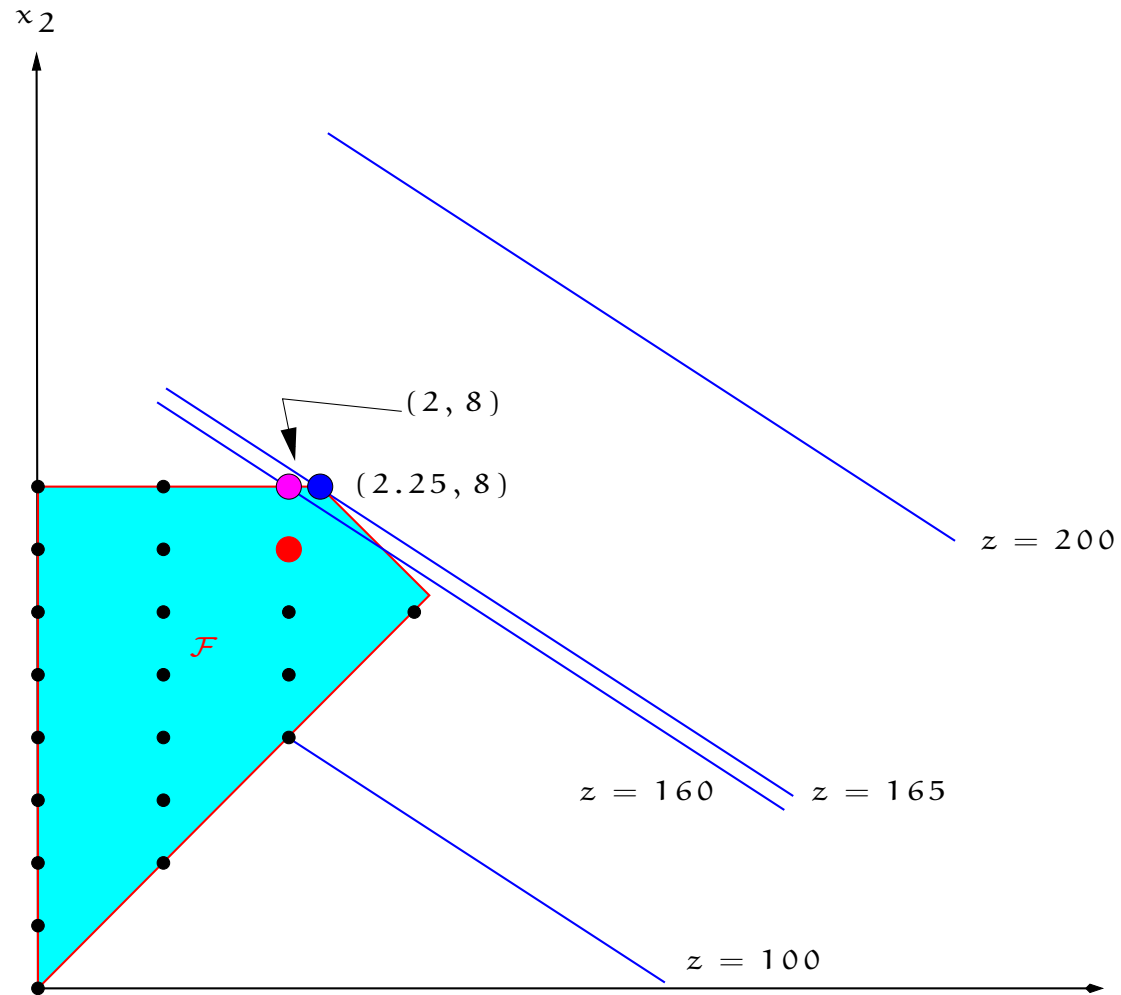

Figure 3: Integer Feasible Set for the T&C Corp Problem
- If I was really interested in finding the solution to such a small problem, I would need to find an integer solution — see Figure 3.
- The nearest integer point to $(2\frac{1}{4}, 8)$ is the **magenta** dot in Fig. 3 $(2, 8)$ — this is the **integer optimal point**.